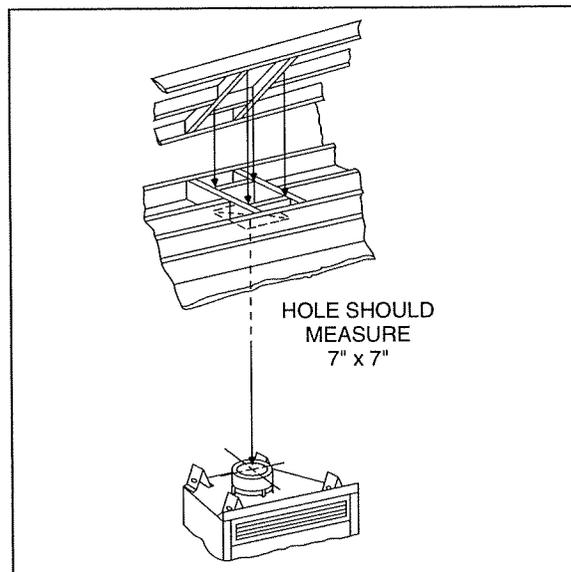

Figure 7
6. **Marking the exit point in the roof.** Locate the point where the chimney will exit the roof by plumbing down to the center of the chimney. Drive a nail up through the roof to mark the center. See Figure 7.